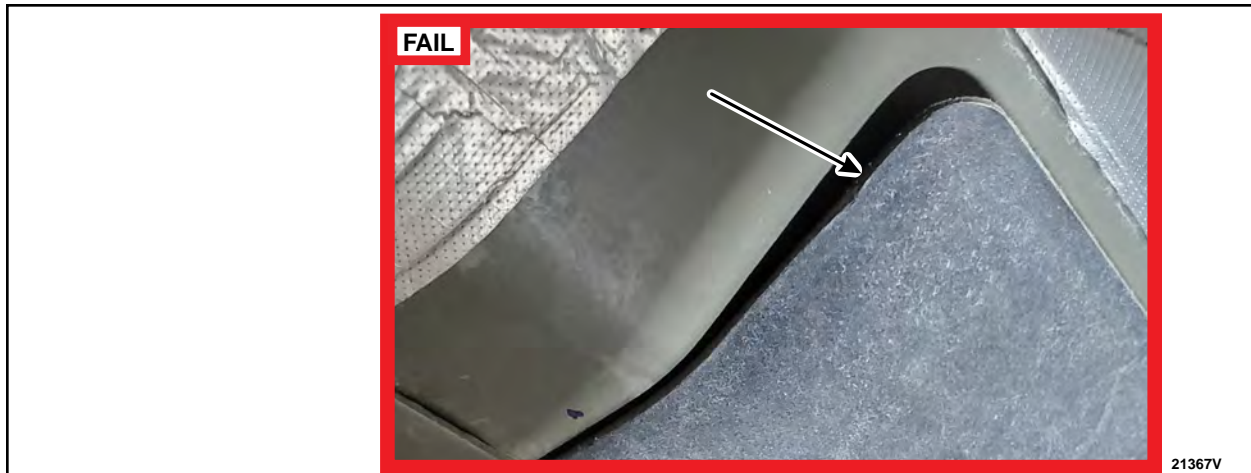

FIGURE 10
10. Inspect the driver side insulator for any edges hanging down or touching the fuel tank. Is the insulator hanging down or touching the fuel tank? See Figure 10.